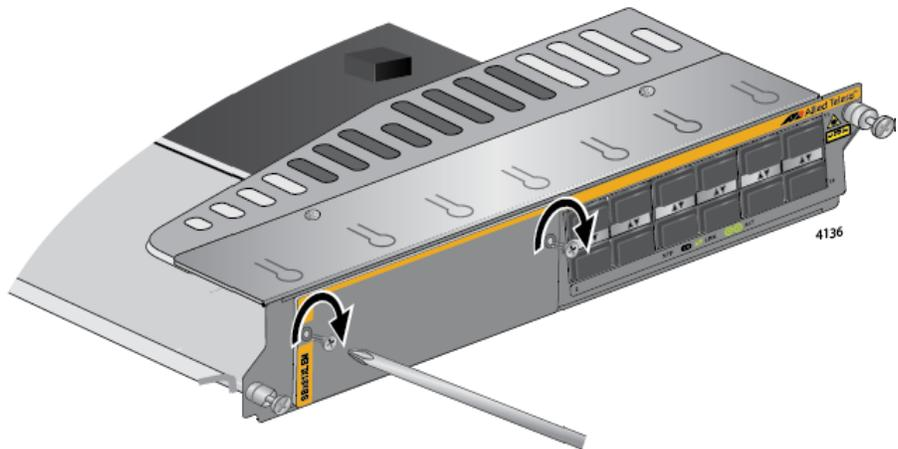

Figure 167. Securing the Blank Slot Cover
10. Secure the blank slot cover to the card with a Phillips-head screwdriver and the two screws removed in step 3. Refer to Figure 167.